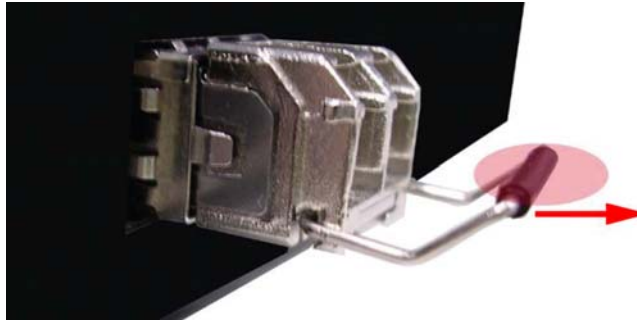

Figure 10. Pull Out from the SFP Module
2. Push down the metal clasp and pull the transceiver out by the plastic part as shown in figure 10 on page 21.